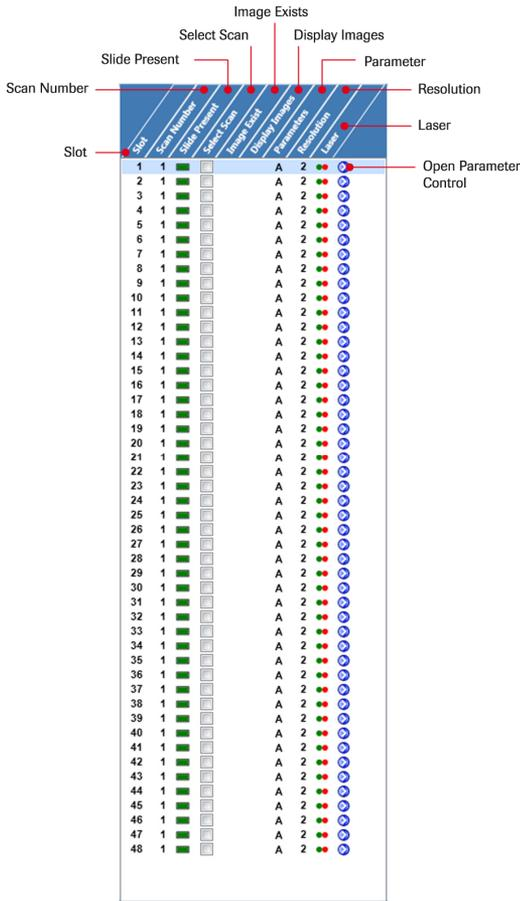

Figure 24: Magazine Control
The Magazine Control (Figure 24) provides information for each slide loaded into the slide magazine.
1. Go to the row of the slide and click its **Open Parameter Control** button () in the Magazine Control (Figure 24).
1. Highlight the slide row in the Magazine Control (Figure 24).
2. If necessary, open the Parameter Control (Figure 24) by clicking the slide's **Open Parameter Control** button (🔗) in the Magazine Control.
2. Go to the slide row in the Magazine Control (Figure 24), right-click, and select **Add Cycle**.
2. Go to the slide row in the Magazine Control (Figure 24), right-click, and select **Delete Cycle**.
1. If necessary, highlight the slide row in the Magazine Control (Figure 24).